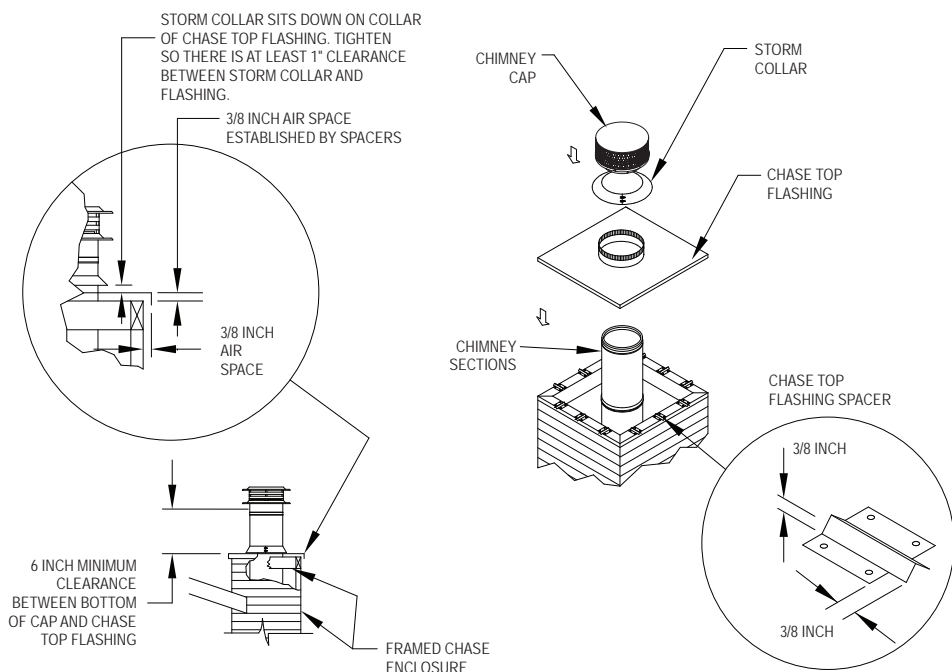

Figure 23
**8. Install Chase Top Flashing:** It is recommended that a Tee Supported Chimney be enclosed in a chase. If a chase enclosure has been constructed, you can either use a standard flat-roof flashing, or you can use a Chase Top Flashing. Using a Chase Top Flashing allows for a lower profile for the chimney. The Chase Top Flashing has an opening in the center that has a 3" larger diameter than the outer diameter of the DuraTech Chimney. If the Chase Top Flashing can fit over your chase enclosure as required (**Fig 23**) then install as directed, or trim as needed. However, if the Chase Top Flashing is smaller than your chase enclosure, the you will need to provide a galvanized sheet capable of covering your chase and overhanging the each side by 1/4-1/2 inch. Attach the Chase Top
Flashing to the galvanized sheet using sheet metal screws and non-hardening waterproof sealant. Use the Chase Top Flashing Spacers to allow the proper air-gap clearances on the galvanized sheet. The Chase Top Flashing Spacers are available to insure that the proper air-gap is maintained. **Figure 23** displays in some detail, how these air gaps are established using the Spacers and Chase Top Flashing. Secure the Chase Top Flashing to the chase using a sufficient number of #8, 1-1/2" wood screws, being careful to insure the air gap is maintained between the flashing and the chase. Seal the screw heads with non-hardening sealant. Install the Storm Collar directly down on top of the collar of the Chase Top Flashing.